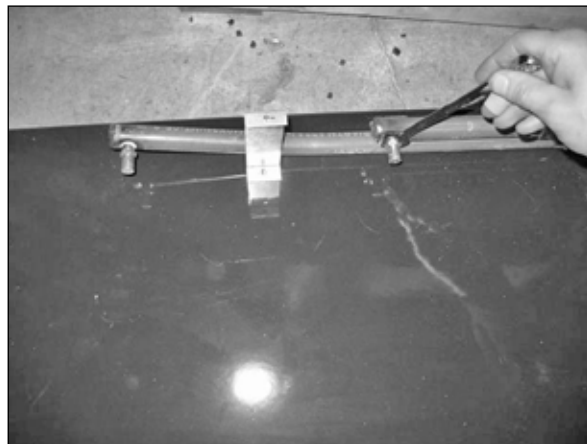

Figure 18: Remove NG orifices. Install LP orifices.
3. Using a 1/2" wrench, undo both natural gas burner orifices (marked "ND").(Figure 18)